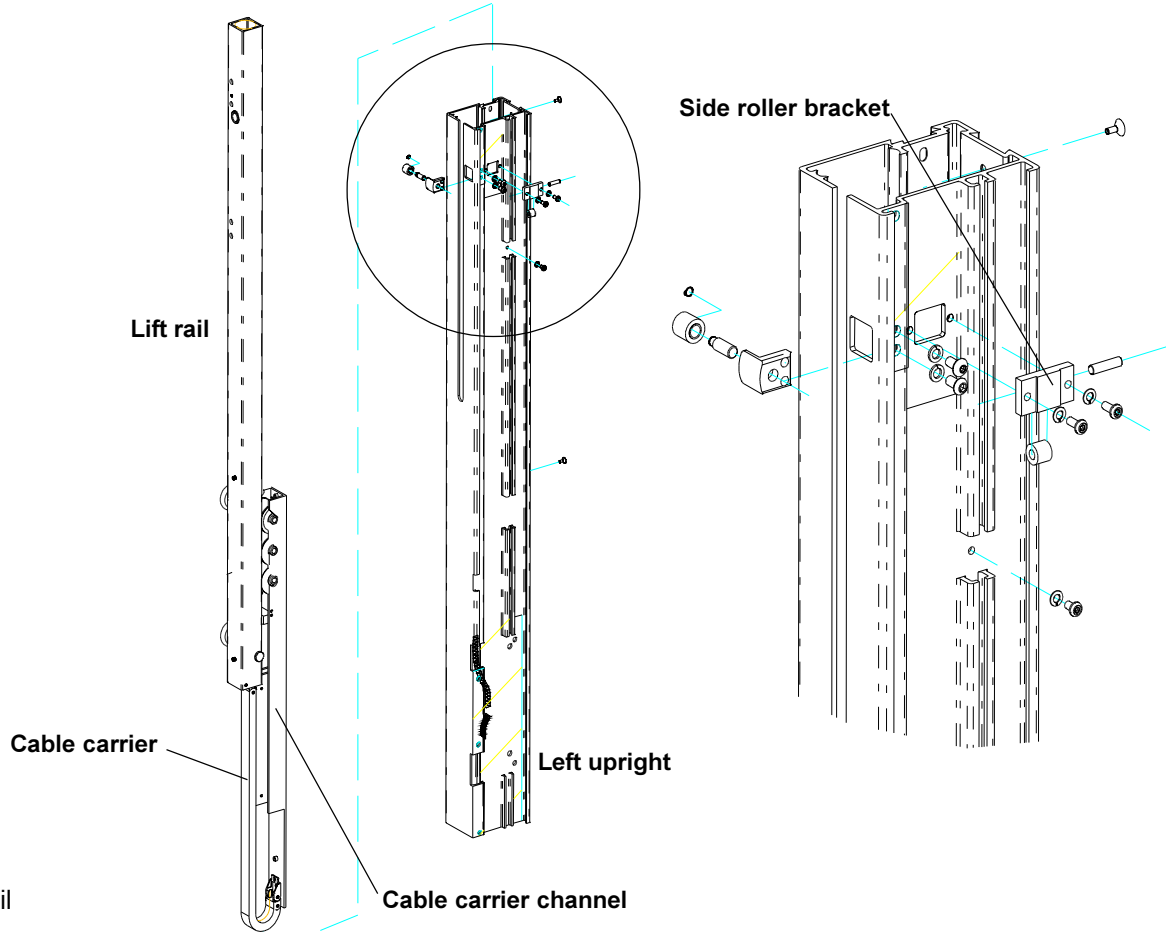

Figure 5-12
5.251 Removing the inner rail assembly (Figure 5-12)